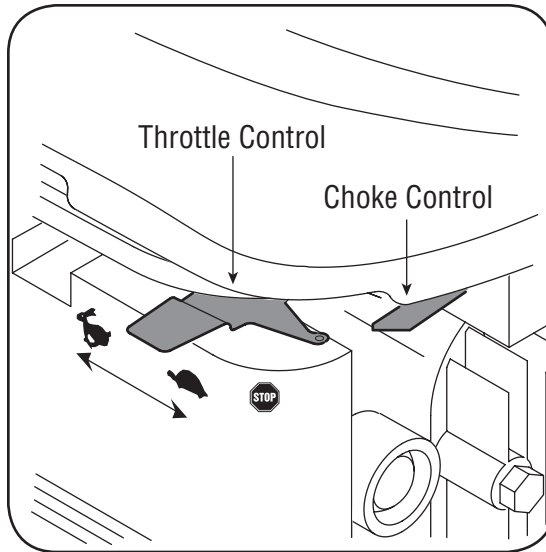

Figure 4-2
4. The throttle control lever is located on the engine. Move engine throttle control lever to FAST or START position. See Figure 4-2.